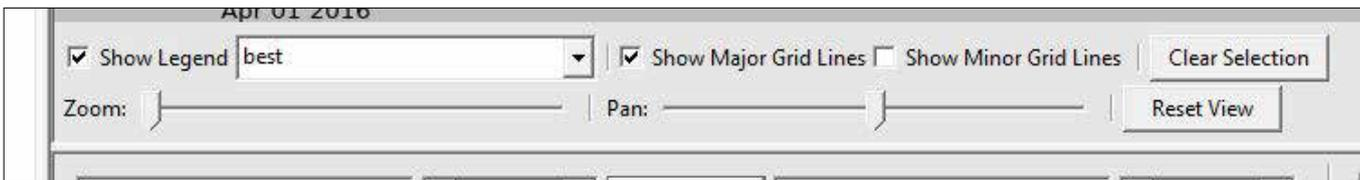

Figure 18: Trend Plotter - Toolbar
4. The legend can be turned on and off using the “Show Legend” checkbox in the plot toolbar (Figure 18).
8. Use “Zoom” and “Pan” sliders to zoom into the plot or move it up and down. The view can be reset using the “Reset View” button (Figure 18).